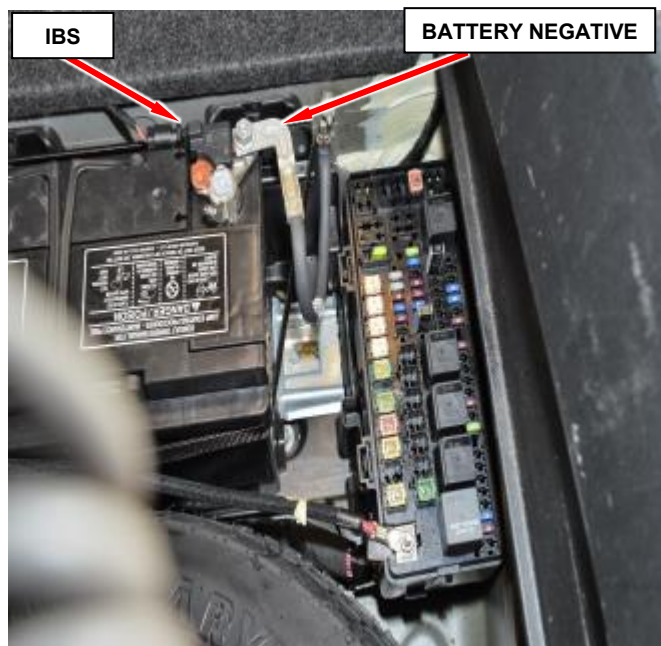

Figure 1 – Battery Negative
1. Disconnect the Intelligent Battery Sensor (IBS) then disconnect and isolate the negative cable from the battery (Figure 1).
2. Remove the two Airbag Module fuses from the Power Distribution Center (PDC), see the PDC cover for the fuse locations (Figure 1).
12. Install the screw access covers on each side of the steering wheel rear trim cover (Figure 1).